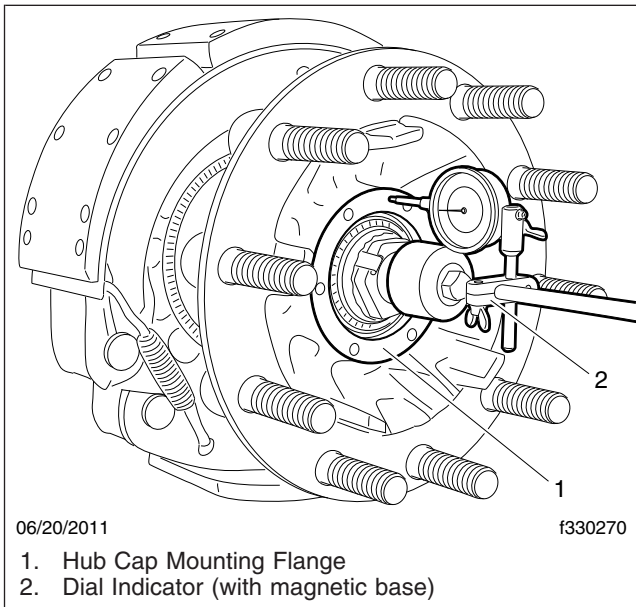

Fig. 9, Dial Indicator Setup
- 11.1 Attach the magnetic base of a dial indicator to the end of the spindle, and place the measuring end of the indicator against the hub cap mounting flange. See **Fig. 9**.